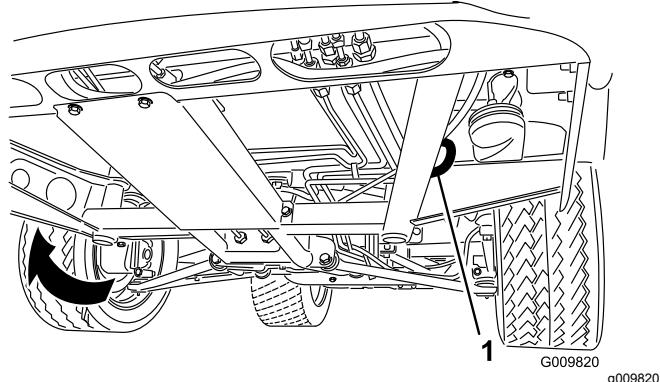
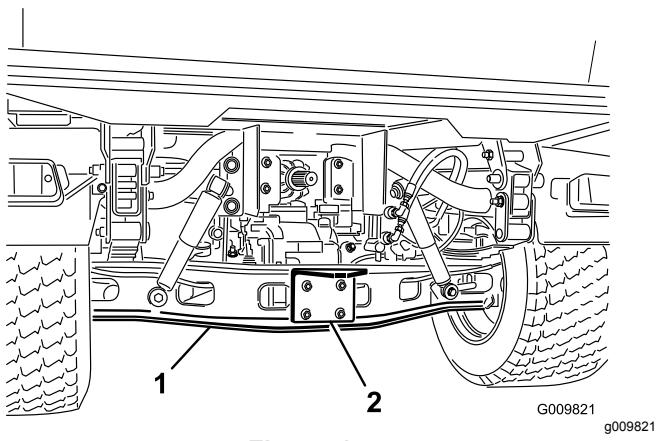

Figure 16
Figure 17
Refer to Figure 16 and Figure 17 for the tie-down locations on the machine.
1. Affix a tow line to the tongue at the front of the frame of the machine (Figure 16).